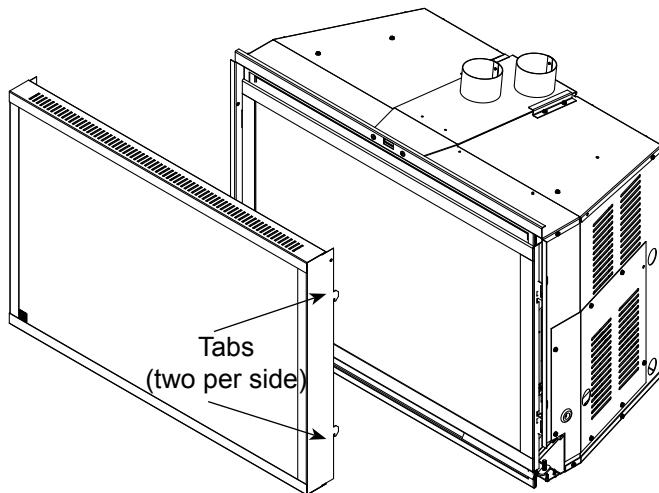
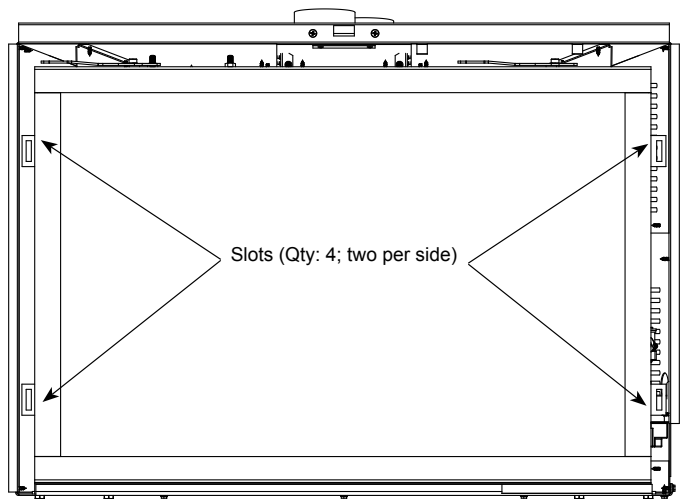

Figure 33
Figure 34
2. Align the four tabs on the sides of the screen frame (two top, two bottom) *Figure 33* with the corresponding slots on the firebox. *Figure 34*.